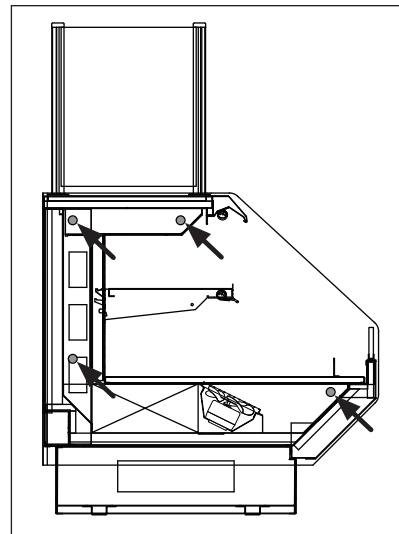

Fig. 3 Bolt locations
4. Push the cases tightly together, then lightly bolt them together through the holes provided (Fig. 3 & 4). Tighten all the joining bolts until all margins are equal. Be careful not to over tighten.